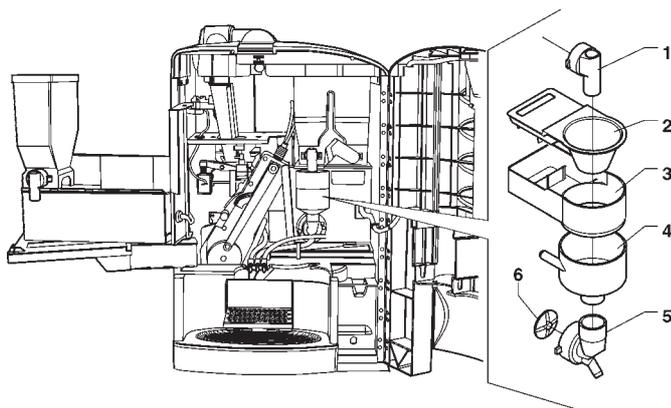

Fig. 23
- remove the powder and the water funnels, the feeders, the powder deposit drawers and the mixer wheels from the mixers (see Fig. 23);